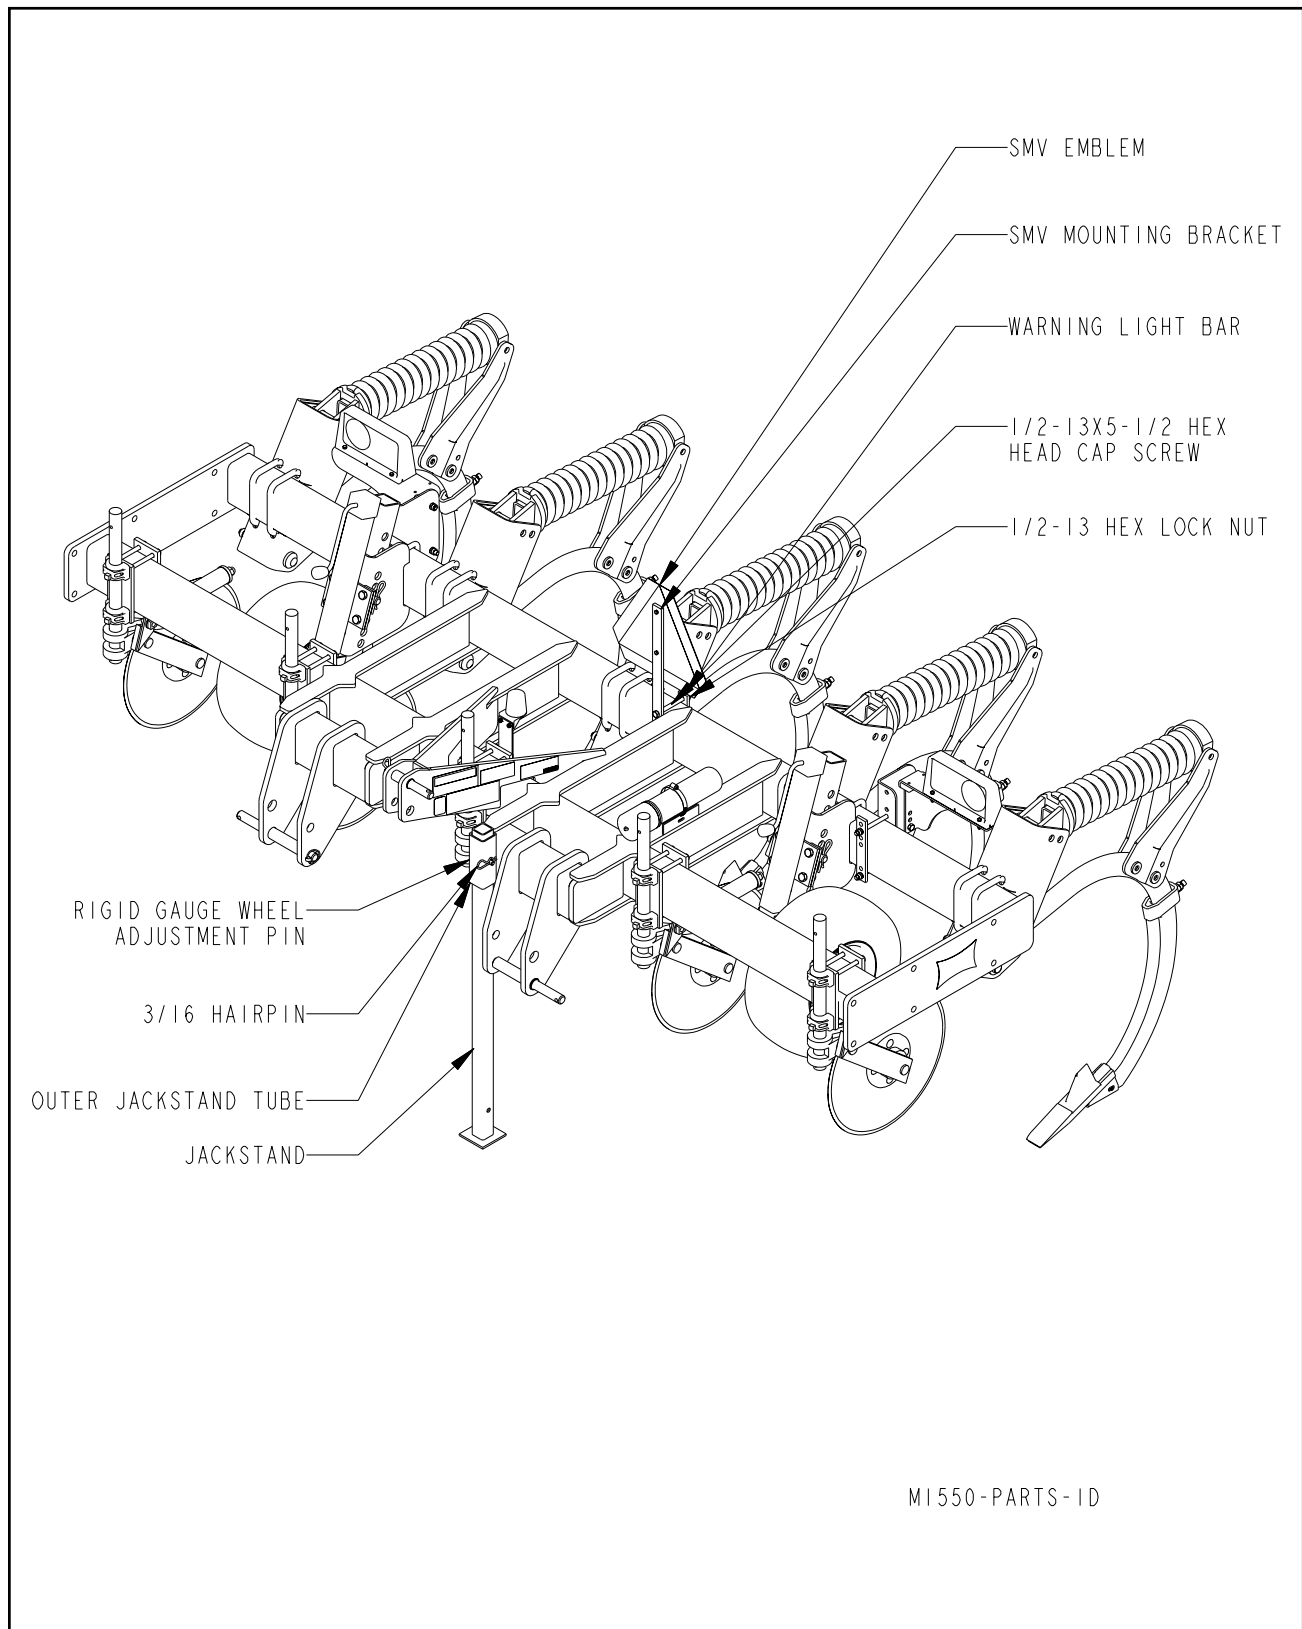

Figure 3-1 1550 Series Parts Identification
- 3-2.3** Insert jackstand through bottom of outer jackstand tube and pin at desired level with rigid gauge adjustment pin and 3/16 hair pin (**See Figure 3-1**).
- 3-3.1** Install the SMV mounting bracket and light bar close to the center of machine on rear frame member using 1/2-13 X 5-1/2 hex head cap screws and hex lock nuts (**See Figure 3-1**).